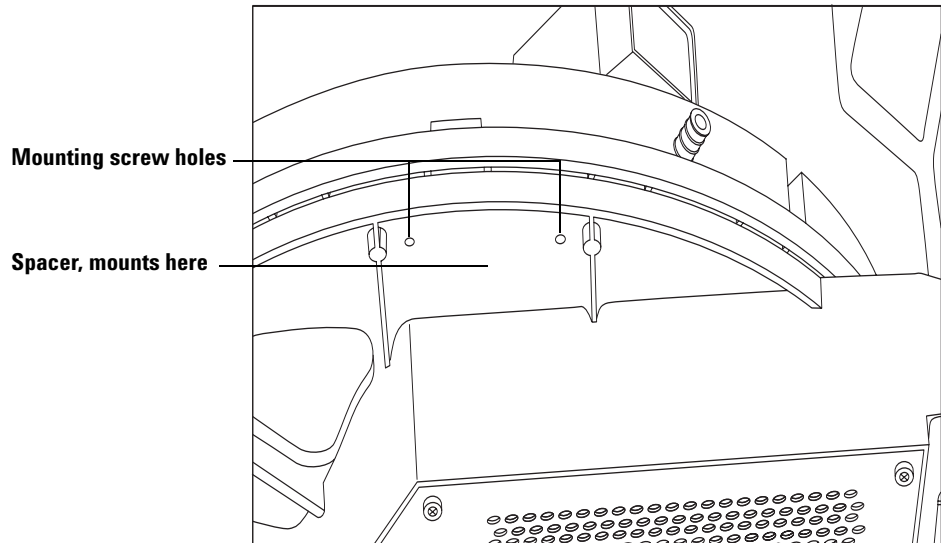

Figure 23 The BCR spacer and mounting location
- 1 Locate the recess in the bottom front of the tray. The BCR must be located at this location. See Figure 23.
The tray shown in Figure 23 is the two hole version. This style tray requires use of the spacer to mount the BCR.